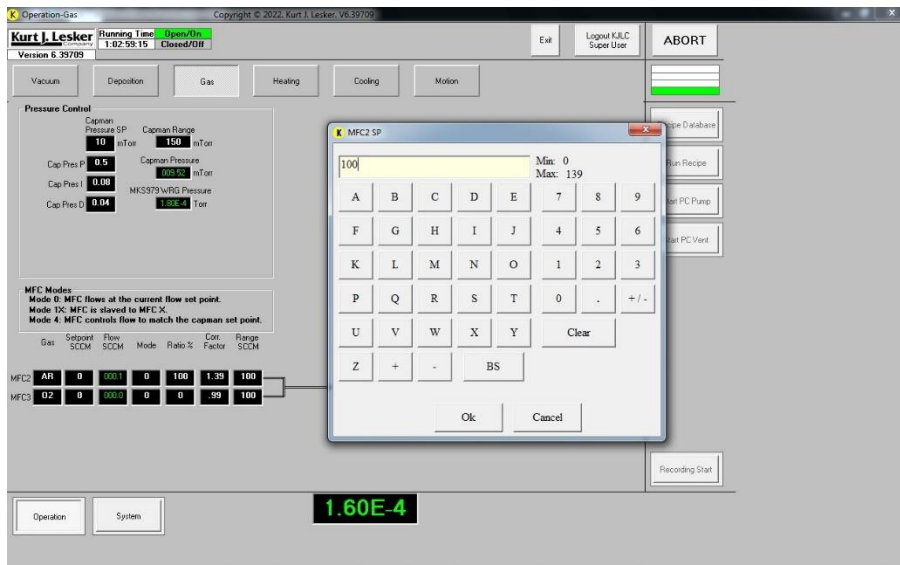

Figure 4 - Gas Setup Dialog Screen
5. Type desired Argon flow into dialog box (MFC2 SP) in Figure 4 and click OK.
9. Type '0' Argon flow into dialog box (MFC2 SP) in Figure 4 and click OK.